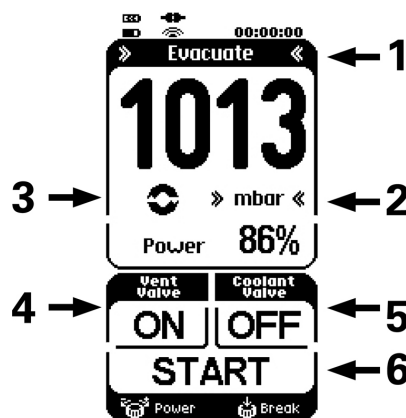

Fig. 11: Menus and buttons on the touchscreen
- Menu for selecting operating mode and units for pressure display (Fig. 11, page 32).
- Operating buttons (Fig. 11, page 32) with the following functions: